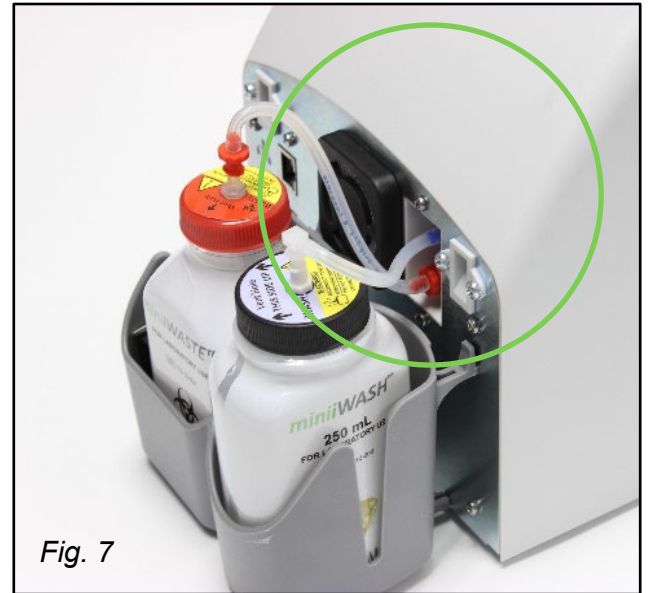

Fig. 7
2.4.2. Connecting the miniWASTE Bottle (Fig. 7, 8):
2.4.3. Connecting the miniWASH Bottle (Fig. 7, 8):
2.4.4. Place both connected bottles into the Bottle Tray (Fig. 7).